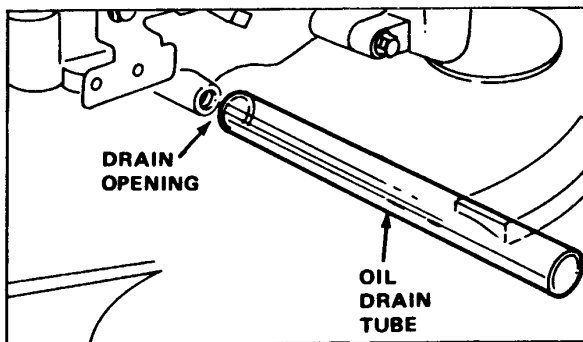

Figure 2-4
4. Insert an oil drain tube, part number 56-6680, over the drain opening and lower the mower. Raise the right side of the mower until all the oil has flowed into a drain pan. See Fig. 2-4.